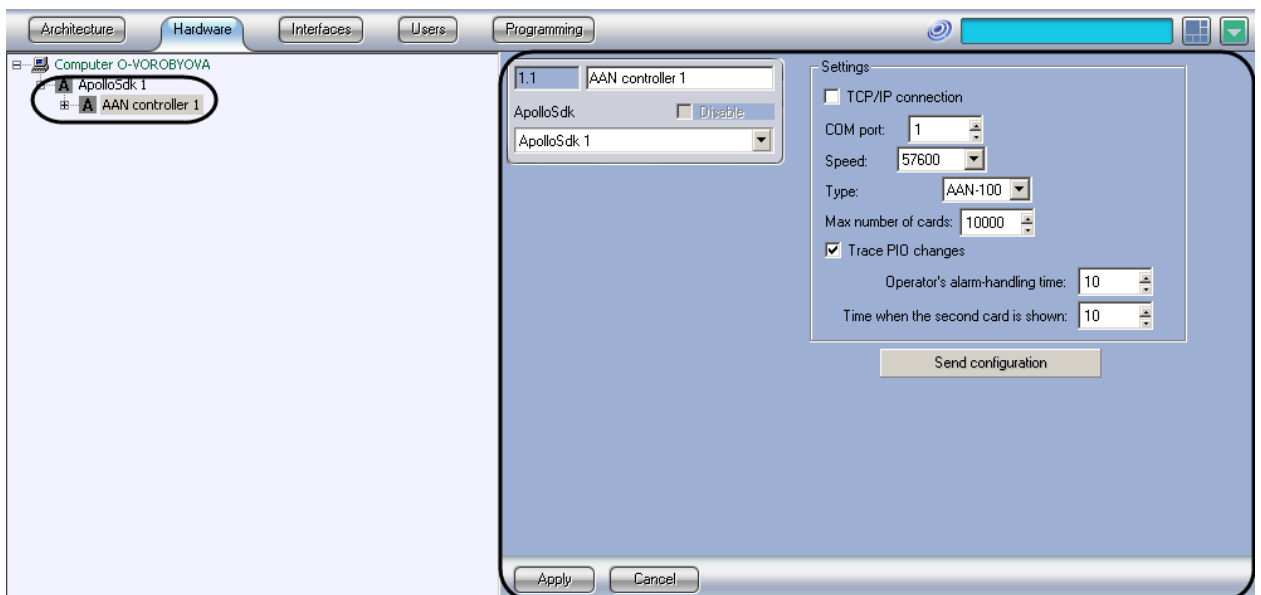

Fig.3.2-2 AAN Controller object
1. Create an **AAN Controller** object based on the **ApolloSDK** object (Fig.3.2-2).
2. Go to the **AAN Controller** object's settings pane (see Fig.3.2-2, 1).